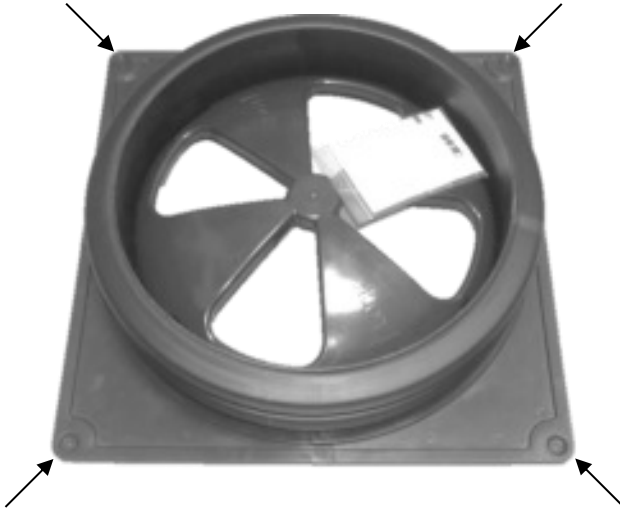

Figure 13: Mounting Base Flange
13.) Drill (4) 5/32" diameter holes through the four corners of the adapter flange (Fig. 13) at least 2" deep into the tank. If the tank is made of concrete, use a carbide tip masonry bit.
14.) Fasten the base plate to the tank using four (4) enclosed blue Tapcon screws (Fig 13).